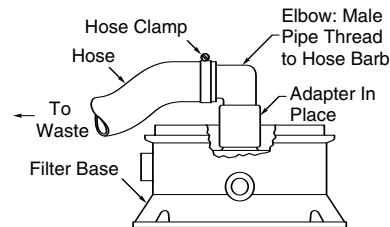

FIGURE 18
- Thread a 1-1/2" 90 degree PVC elbow into female adapter on filter base (see Figure 18).
- Attach hose to elbow as shown in Figure 18; run hose to waste water disposal area.